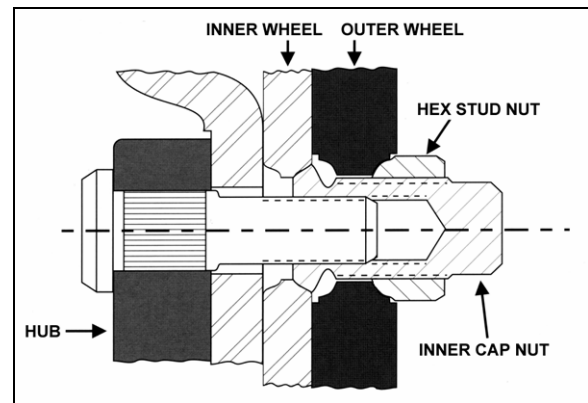

FIGURE 4: STUD-MOUNTED WHEELS 13007
2. Screw in the inner cap nuts (Fig. 4), so that wheel will position itself concentrically with hub. Refer to Figure 2 for sequence;
With inner wheel installed, tighten the hex stud nuts (Fig. 4) using the single wheel installation procedure described previously.
1. Loosen a hex stud nut three turns (Fig. 4);